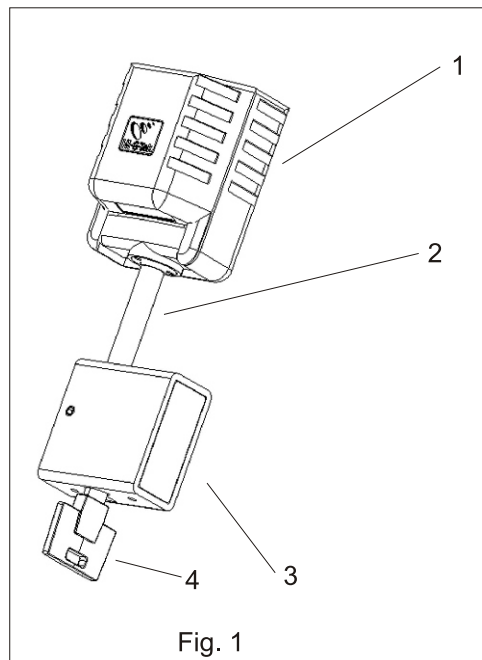

Fig. 1
This installation guide covers the installation of HI-G-TEK's Locking seals family of products. The Lock Seal ( Fig.1) contains electronic module (1), locking pin (2) and locking unit (3) with a key (4).